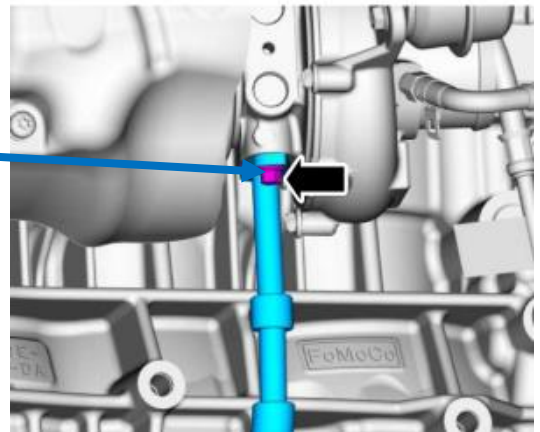

Fig. 25
1. Carefully maneuver oil drain line into position. Gently push flange up towards turbo center housing. See Fig. 25